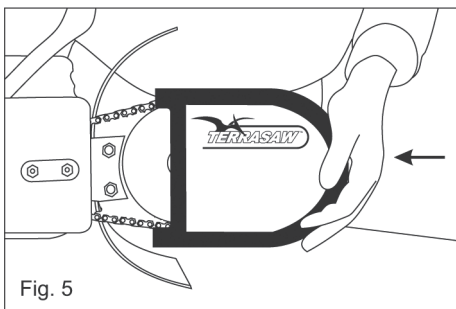

Fig. 5
9. Refit the Terrasaw drive chain guard. With securing bolt drawn back slide the chain guard into the retaining channel on main block and push firmly home with the heel of your hand (Fig. 5). Re-tighten the guard securing bolt.